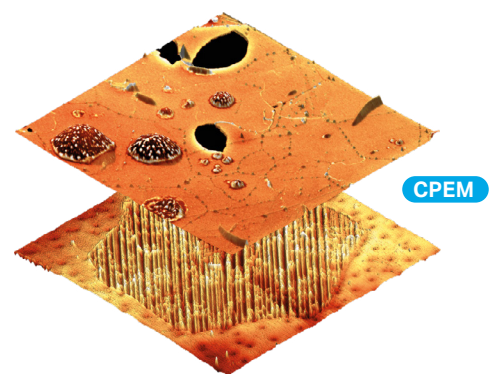

Figure 2. **Top:** 3D CPEM view of a thin layer of BiFeO_3 on a HOPG substrate. **Bottom:** A monolayer of graphene on a Cu foil preserving the rough surface of copper.
- 3D surface topography extension of the SEM image (**Figure 2**)